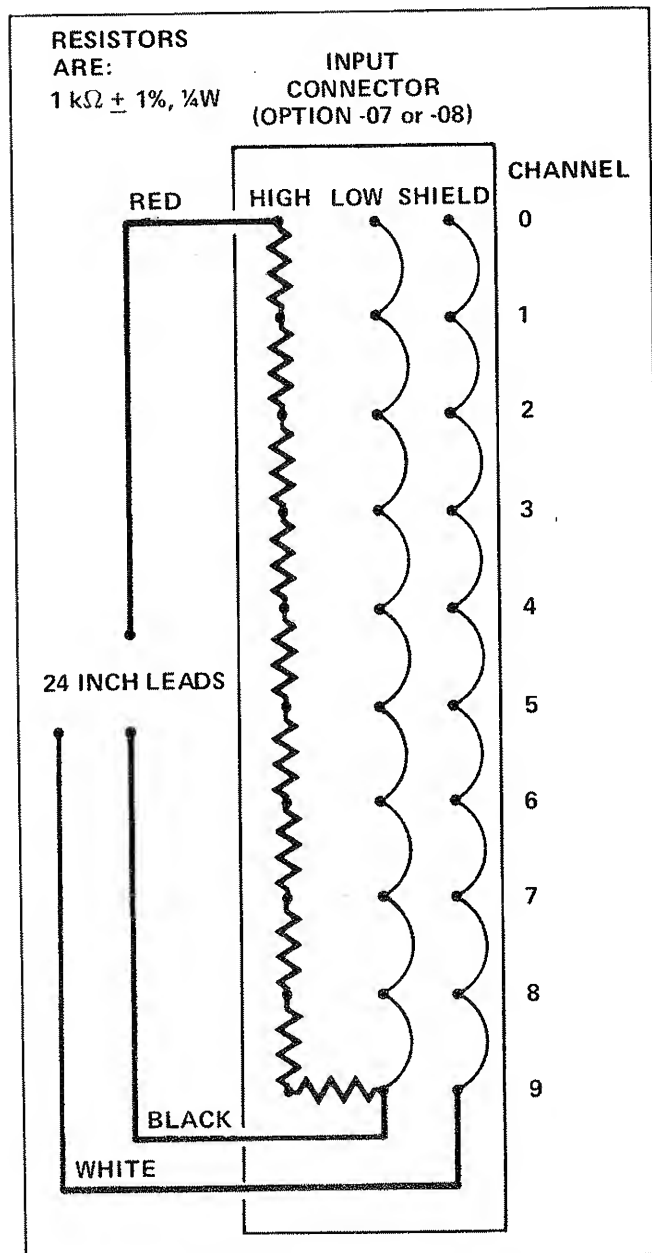

Figure 605-4. Scanner Test Cable
1. Using the resistors and the input connector specified in Table 605-2, fabricate a scanner test cable as shown in Figure 605-4.